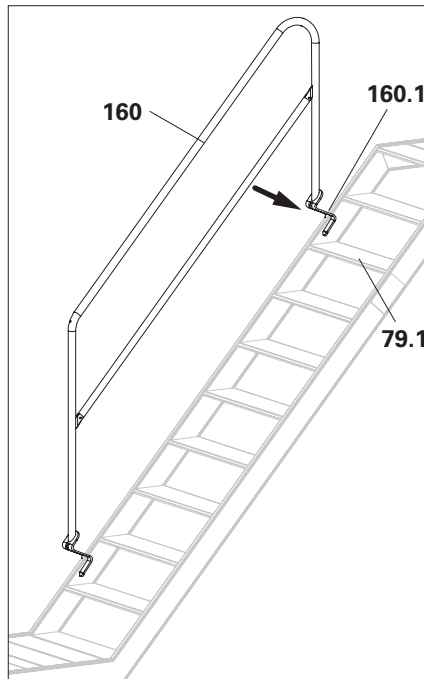

Fig. A8.06a
1. Attach the Stair Guardrail UAG to the stair rail using the mounting rings (**160.1**). (Fig. A8.06a)